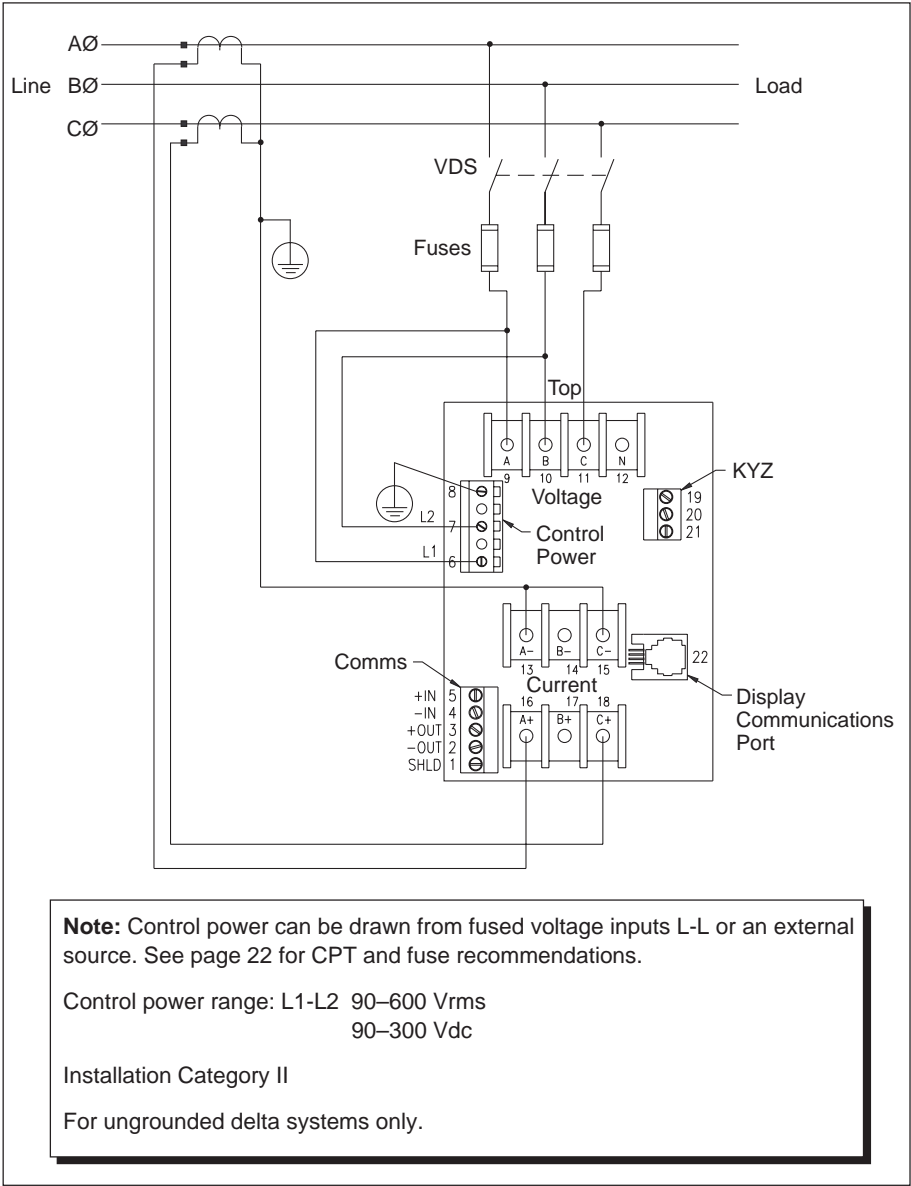
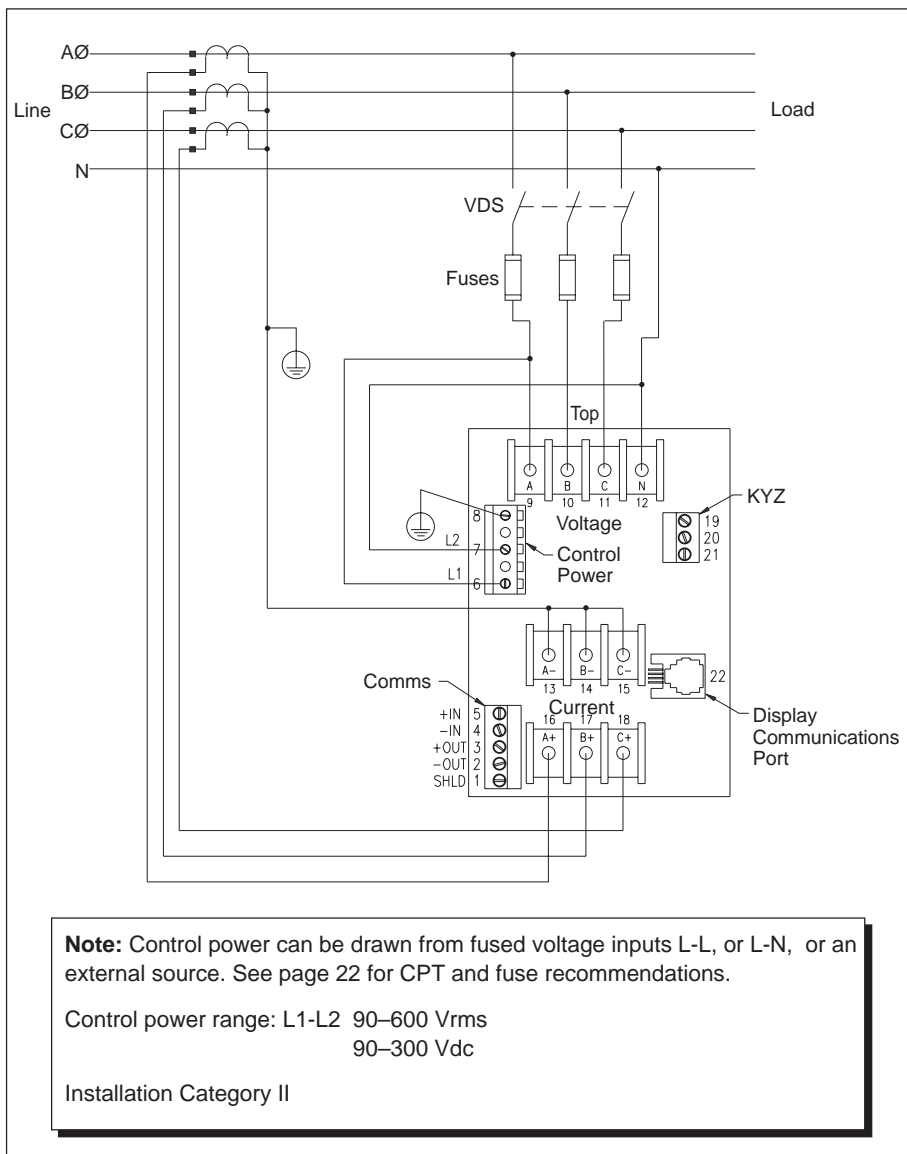

Figure 5-3: 3-phase, 3-wire delta direct voltage connection with 2 CTs
Figure 5-6: 3-phase, 4-wire wye, ground and direct voltage connection, with 3 CTs
2. For L-N control power (see figure 5-6, page 27), connect the Vn terminal (terminal 12) to the L2 terminal (terminal 7). For L-L control power (see figure 5-3, page 24), connect the Vb terminal (terminal 10) to the L2 terminal (terminal 7).